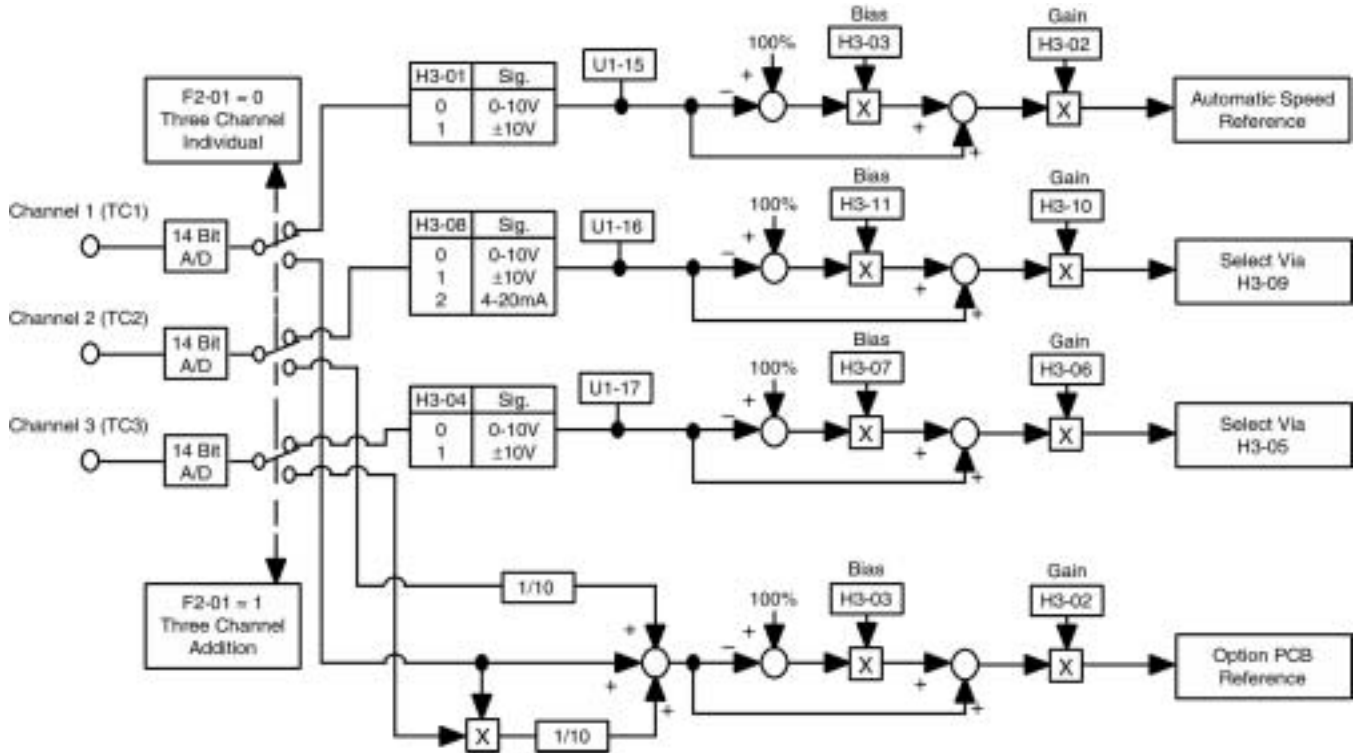

Figure 4. AI-14B Block Diagram
7. **Adjustment.** There are no adjustments to be made on the AI-14B option; however, the drive will have to be programmed for the input requirements of the peripheral device and the reversing or non-reversing requirement of the specific application. Refer to Figures 4 and 5, and Table 3.
Figure 4 shows two possible modes of operation for the AI-14B option card when installed in the drive. These modes are selected by drive parameter F2-01 (AI-14B Input Selection). When F2-01 is set to “ 0 ”, 3-channel individual mode is selected. In this mode the AI-14B option replaces the analog inputs on the drive’s main control board. See Table 3.